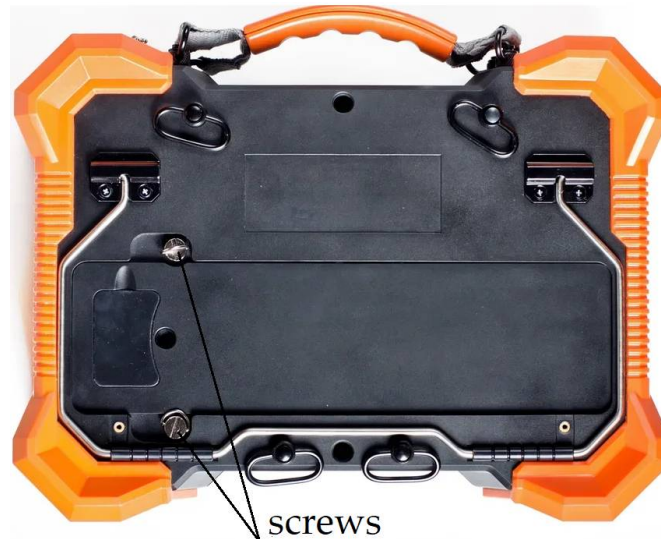

Figure 60. Battery replacement.
Figure 60 shows the appearance of the rear cover of the PEC Flaw Detector PE4332 housing. The Figure show screws with D-ring.
- Loosen the screws (see Figure 60) using a slot screwdriver or fingers (D-rings enable to loosen the screws without the screwdriver),